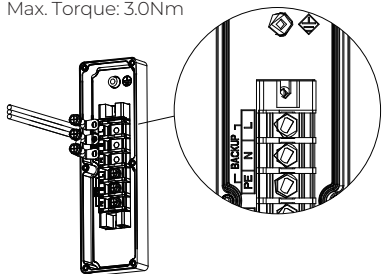

Figure 5-13-3
**Step 3:** Fix the terminals to EP760 inverter BACKUP and GRID areas with a cross screwdriver as shown in Figure 5-13-3 and 5-13-4.